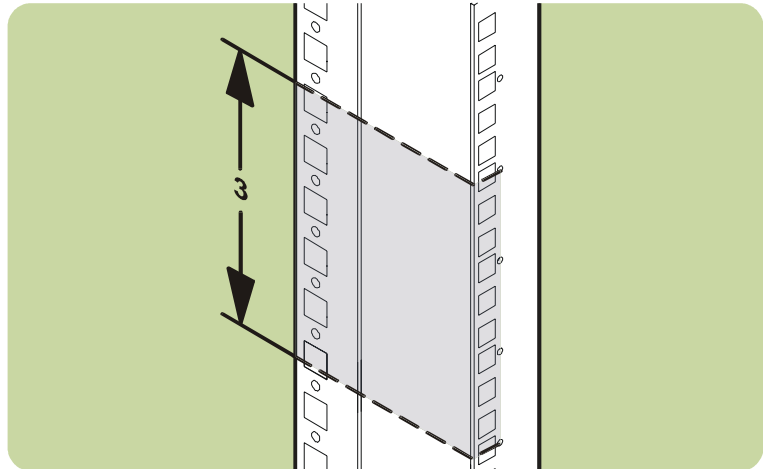

Fig. 31. Locating units of space in Compaq 9000
3. The array and rail kit take 3 units of space. Using the template provided, locate the required units of space on the four rack columns (see Fig. 31).